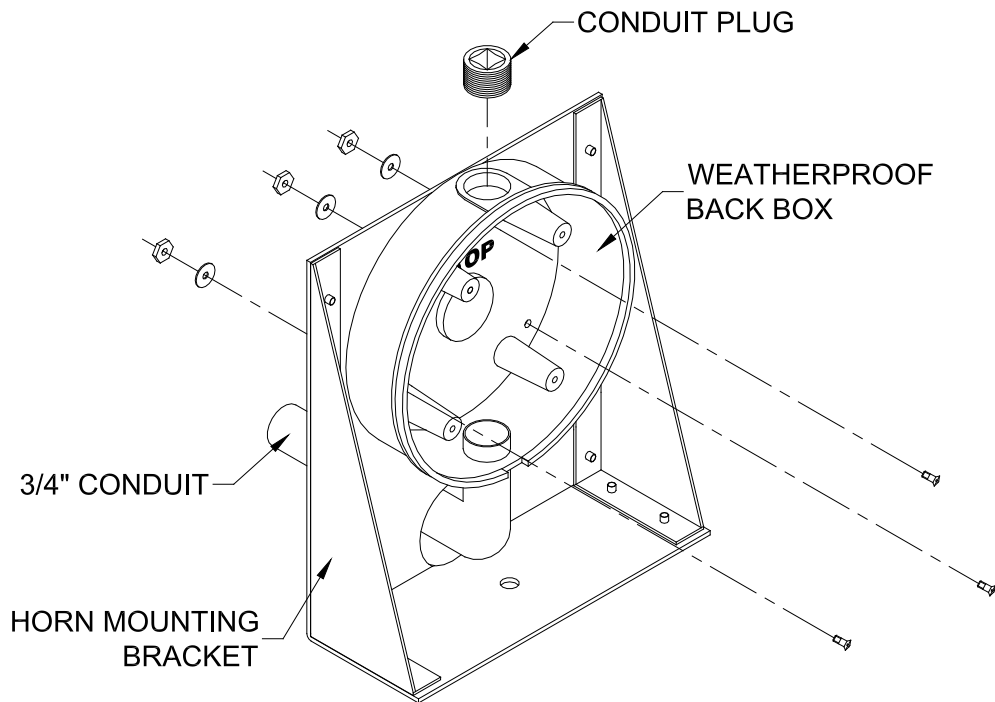

Figure 9 Back Box Mounting Points
9. Attach the weatherproof back box to the mounting bracket using the provided 8-32 x 1/2" Phillips head machine screws, #8 split-lock washers, and 8-32 hex nuts as shown in figure 9.